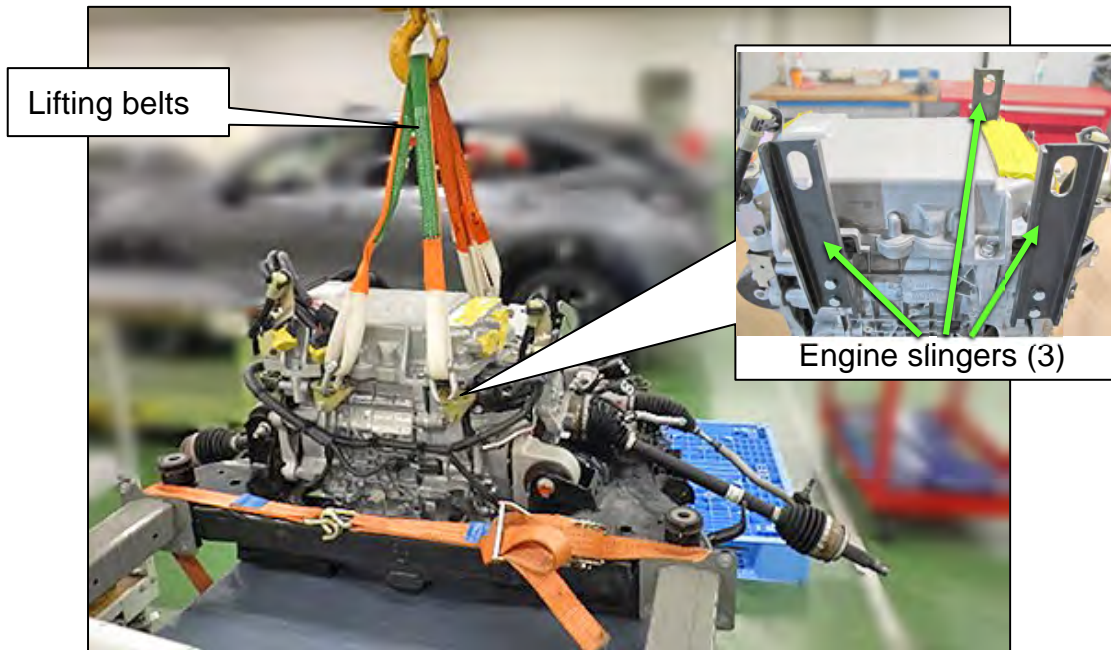

Figure 76
97. Install engine EV traction motor slinger brackets (part number NI-53355) at three (3) points on the Traction Motor (Figure 76).
98. Attach two (2) lifting belts (part number NI-50309) to the EV traction motor slinger brackets and connect to a hoist.